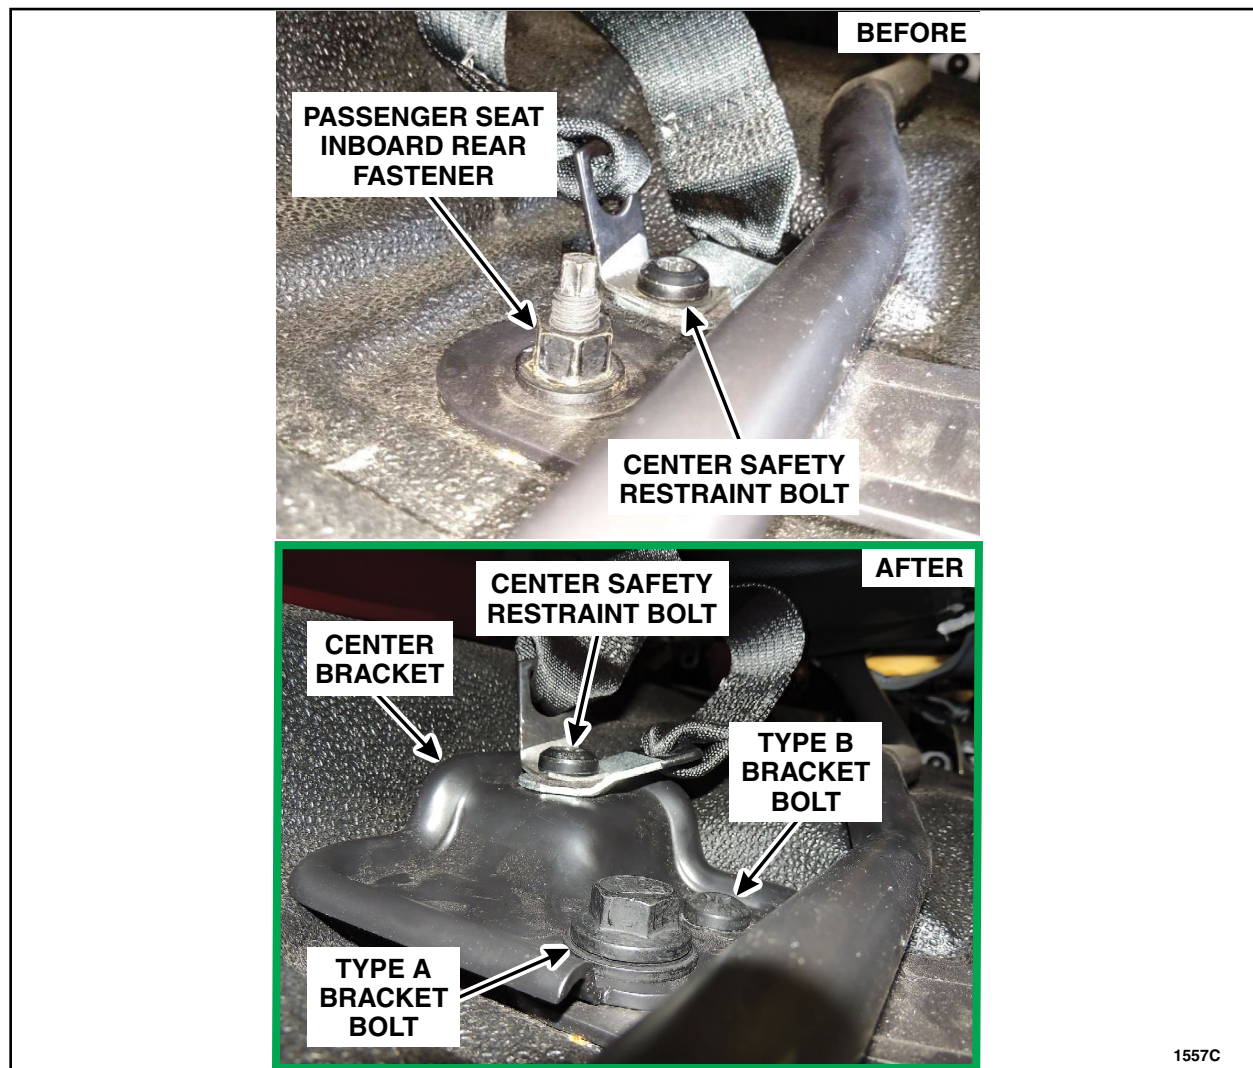

FIGURE 5
4. Install the center bracket (See Figure 5):